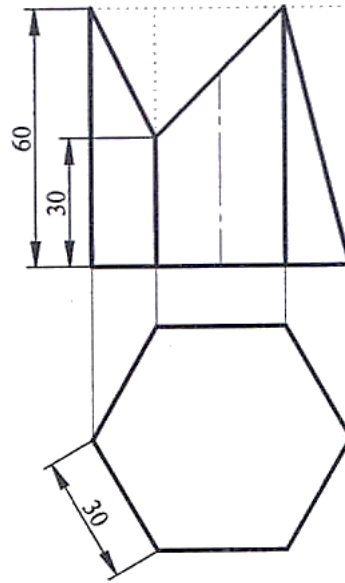

Figure 9.1
- 9.9** A hexagonal prism side of base 30mm and height 60mm is cut as shown in the Figure 9.1